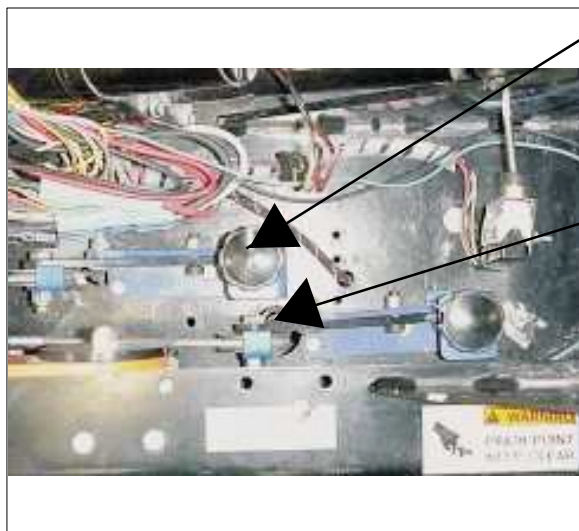

Figure 11
**MAIN BROOM ADJUSTMENT (See Figure 11)**
**SIDE BROOM ADJUSTMENT (See figure 11)**